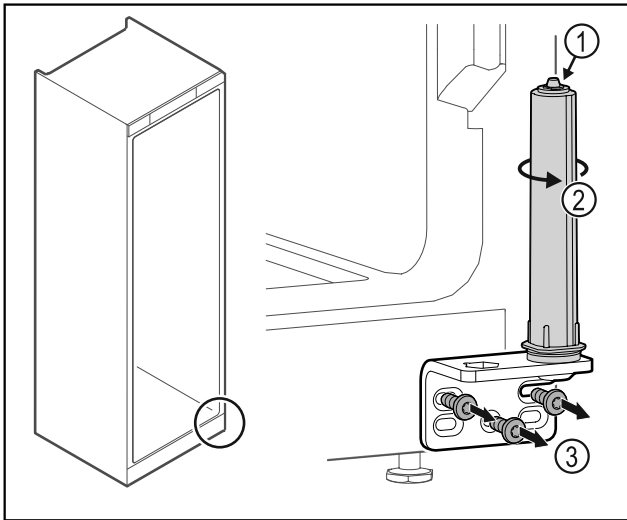

Fig. 35
- Do not disassemble the door closing system Fig. 35 (1).
- Turn the closing system Fig. 35 (2) until it clicks.
- Unscrew the hinge Fig. 35 (3).